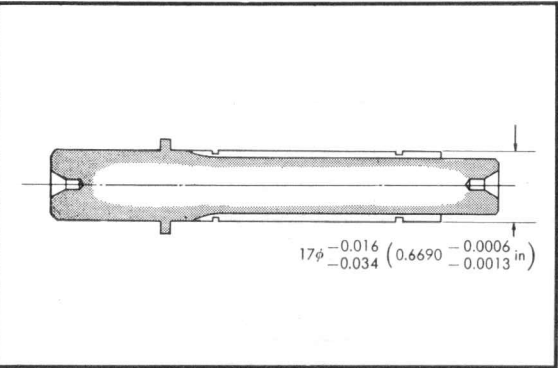

Figure 3-83. Counter shaft dimension
- (5) Counter shaft outside dia (Fig. 3-83)